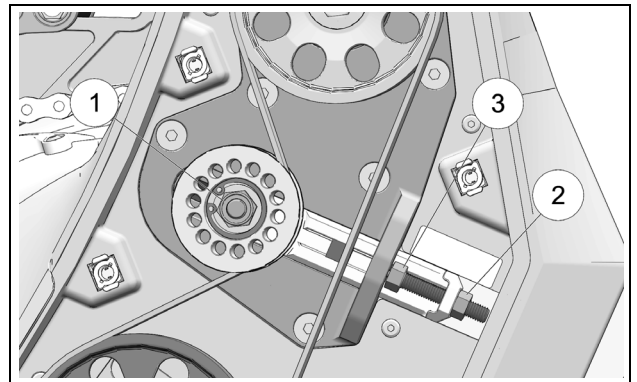

Figure 45
- Loosen tensioner pulley nut (1) $\frac{1}{2}$ to $\frac{3}{4}$ turn. See Figure 45.
- Loosen lock nut (2) on Belt Tensioner adjusting bolt. See Figure 45.
- Rotate Belt Tensioner adjusting bolt (3) to raise or lower belt tension. See Figure 45.
- Tighten tensioner pulley nut (1) back to 55 Nm (38 lb-ft) of torque. See Figure 45.